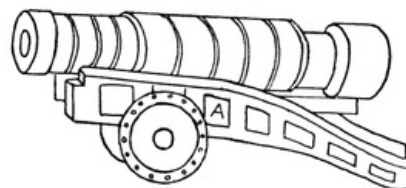

FIG. 337
**A Tudor Cannon** (Fig. 337). The sides A A may be cut out of cardboard or, better still, of three-ply wood with the fret-saw. The wheels are solid discs and may also be cut out with the fret-saw, holes being drilled in the centre for the axle. The cannon itself can be shaped out of wood with pen-knife and file, or a cardboard roll (such as is used for transmitting music or pictures) can be used, the thicker parts are then made by gumming additional pieces of cardboard round it, or glueing strips of lead.